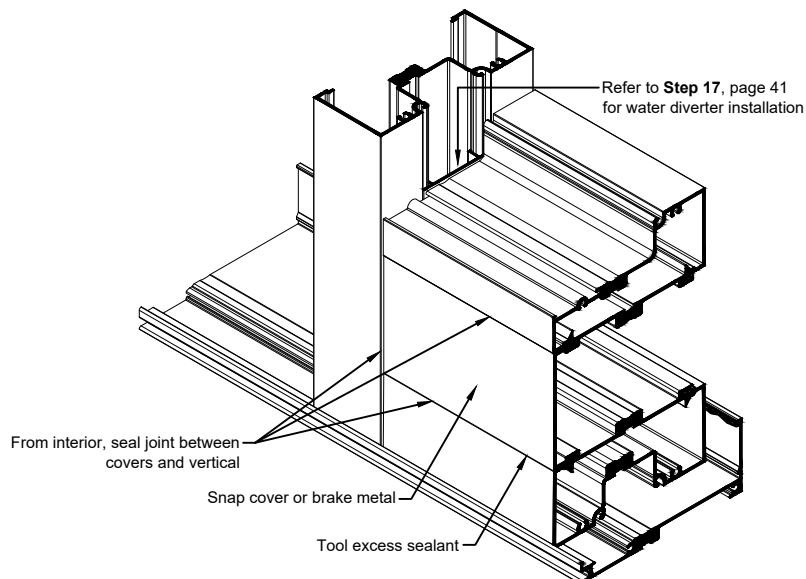

Fig.36.2
- J. From the exterior, seal joints between the snap cover and vertical members. **SEE Fig. 36.2.**
- K. Attach a snap cover or brake metal to the exterior. **SEE Fig. 36.2.**